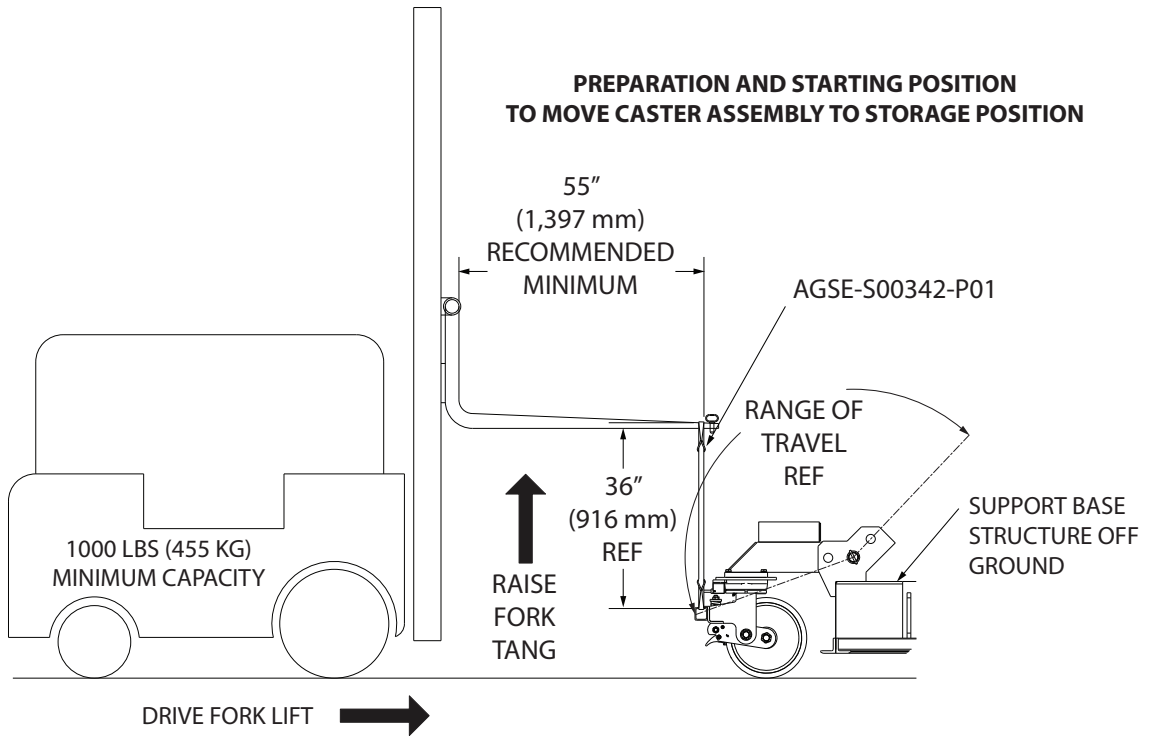

Figure 5.10-1
1. Rotate the caster so the steering socket is positioned away from the stand for accessibility. Attach a suitable chocker style web sling with a minimum 1000 lbs (455kg AGSE-S00342-P01, IPB Figure 8 Item 65) through the tube socket and connect to and overhead crane or forklift as shown in Figure 5.10-1.